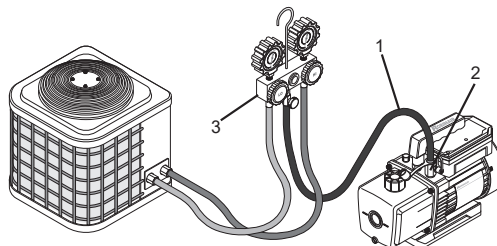

Figure 6
3. Connect a refrigeration service hose (1) to vacuum pump inlet (2) and the manifold gauge set (3) (see Figure 6).
4. Connect high-side and low-side service hoses to the respective service ports of the A/C-R system (see Figure 6).
(see Figure 6).
2. Remove hose from pump inlet (2) (see Figure 6).
4. Cap the inlet port to prevent any contamination or loose particles from entering the port (2) (see Figure 6).